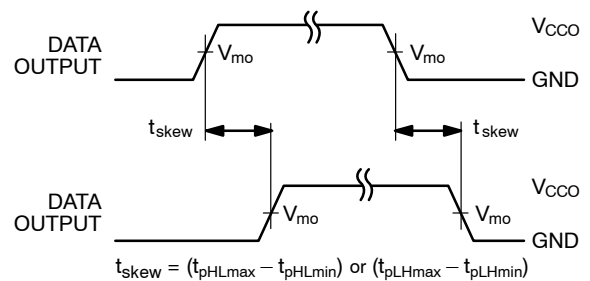

Figure 15. Output Skew Time
16. Skew is the variation of propagation delay between output signals and applies only to output signals on the same port (A_n or B_n) and switching with the same polarity (LOW-to-HIGH or HIGH-to-LOW) (see Figure 15). Skew is guaranteed; not production tested.